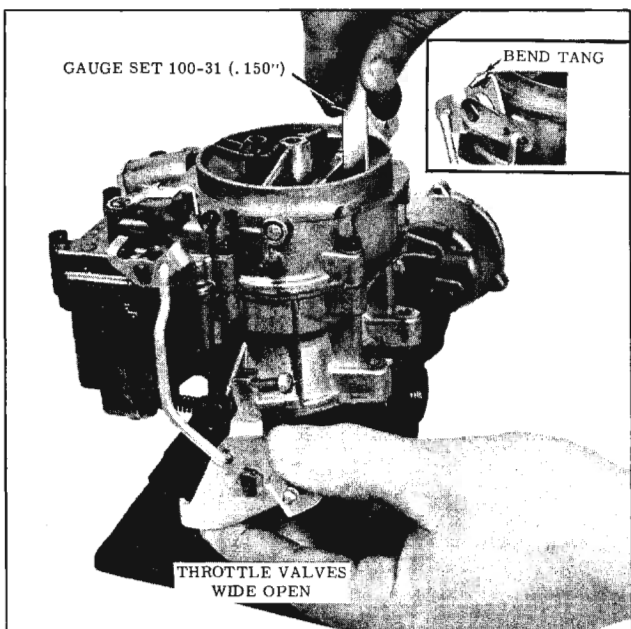

Fig. 9-49 Unloader Adjustment
1. With throttle valves held wide open, check clearance between the top edge of the choke valve and the air horn. (Fig. 9-49)